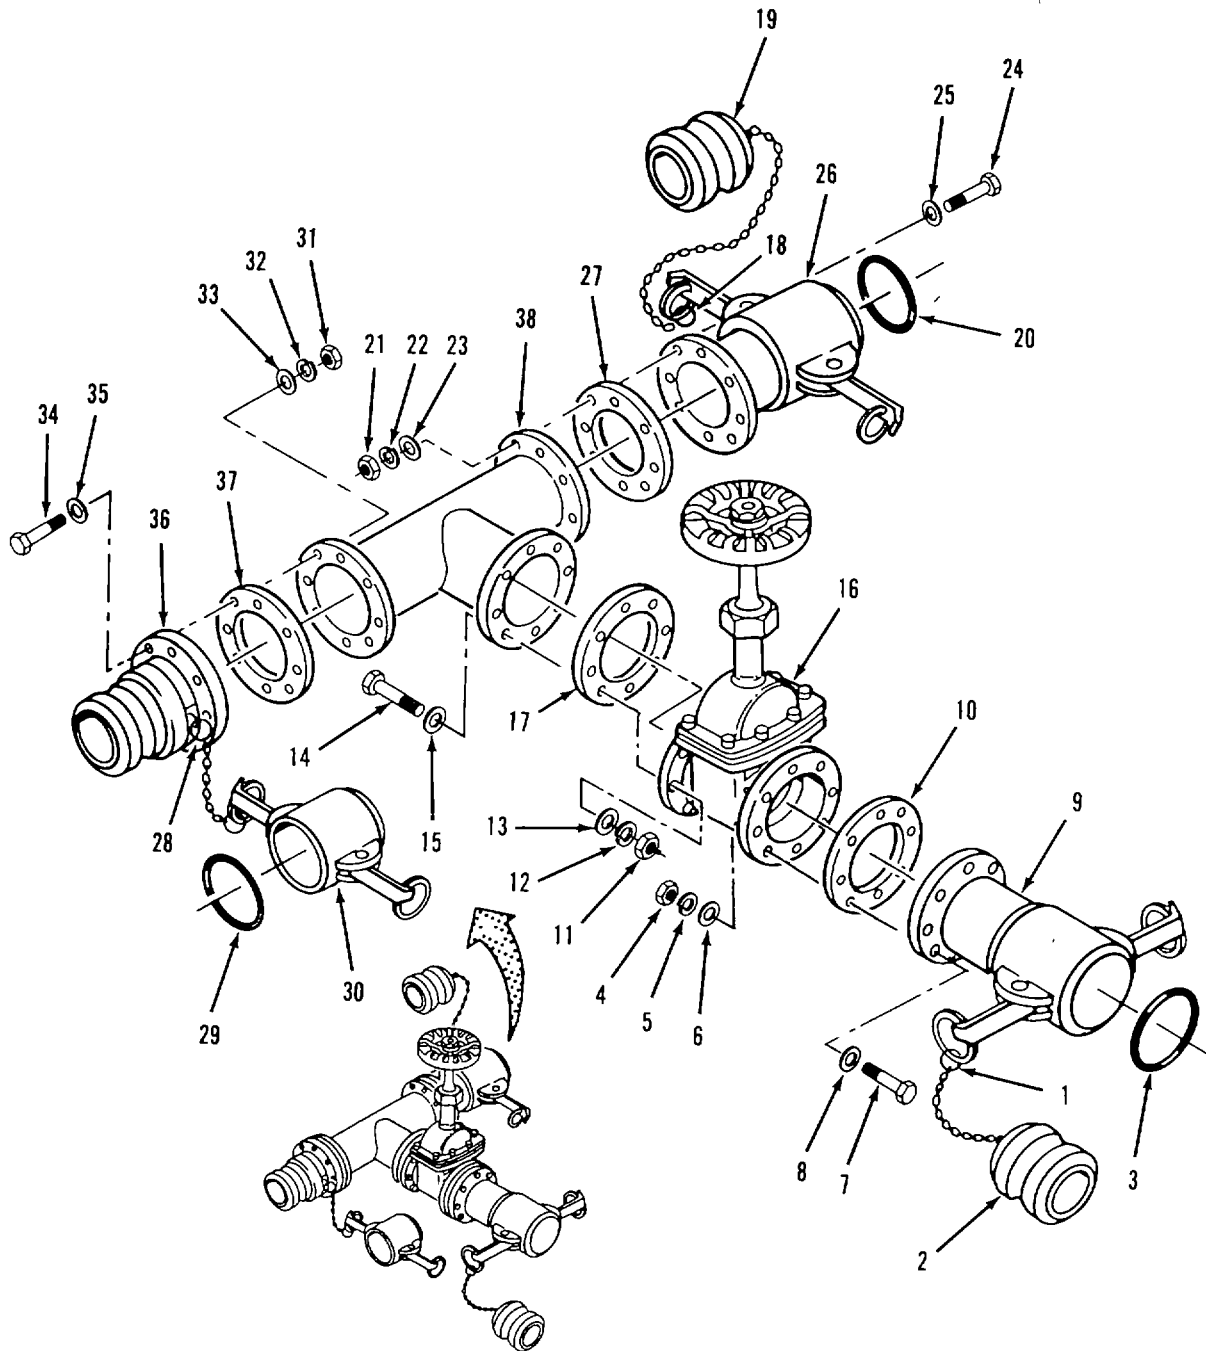

Figure 4-36. Tee and Gate Valve Assembly (9114-Y6) Disassembly.
a. Disassembly. Refer to figure 4-36.
- (1) Disconnect ring (1) from female coupling (9) and remove plug (2).
- (2) Remove gasket (3) from female coupling (9).
- (3) Remove eight nuts (4), lockwashers (5), flat washers (6); screws (7) and flat washers (8).
- (4) Separate female coupling (9) and gasket (10) from gate valve (16).
- (5) Remove eight nuts (11), lockwashers (12), flat washers (13), screws (14) and flat washers (15).
- (6) Separate gate valve (16) and gasket (17) from tee (38).
- (7) Disconnect ring (18) from female coupling (26) and remove plug (19).
- (8) Remove gasket (20) from female coupling (26).
- (9) Remove eight nuts (21), lockwashers (22), flat washers (23) and screws (24) and flat washers (25).
- (10) Separate female coupling (26) and gasket (27) from tee (38).